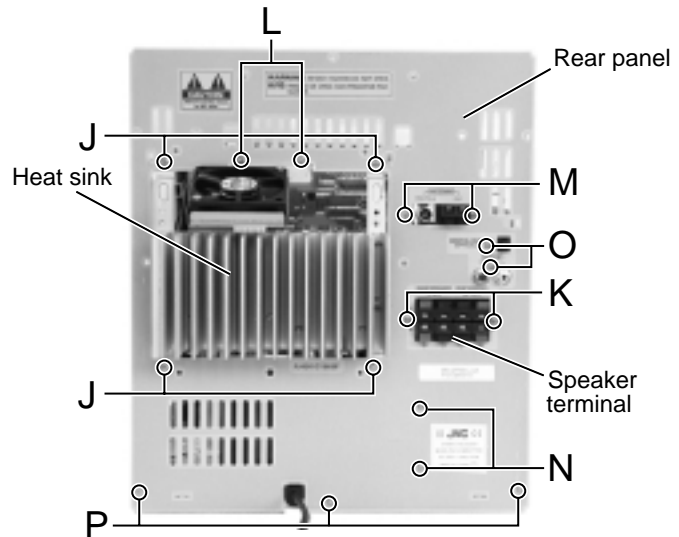

Fig.12
(See Fig.12 and 13)
■ Removing the rear panel (See Fig.12)